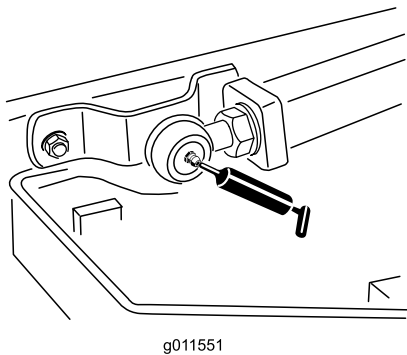

Figure 41
- Lift arm ball joints (2) (Figure 41)